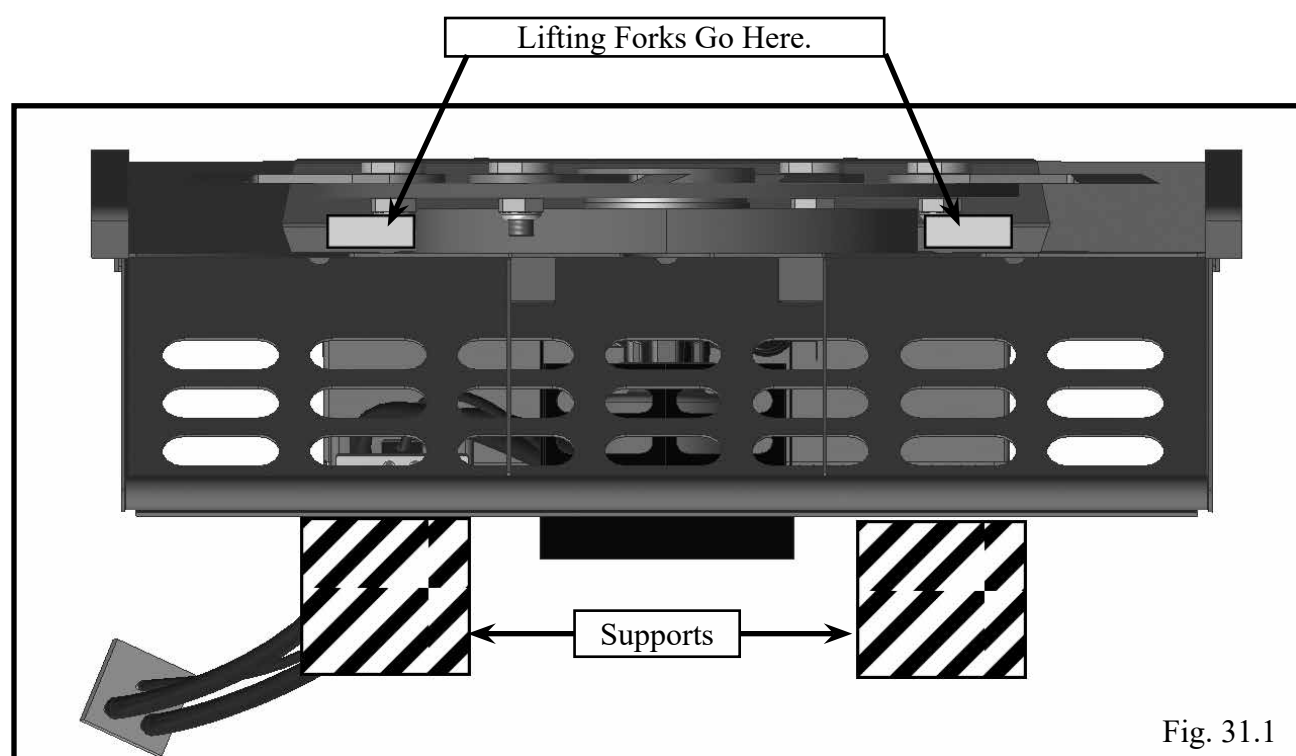

Fig. 31.1
Step 2. With the cutter deck safely supported in an upside down horizontal position, using a forklift or forklift attachment with the forklift blades 34.5" apart, place the blades below the blade bar, as shown in Fig 31.1.